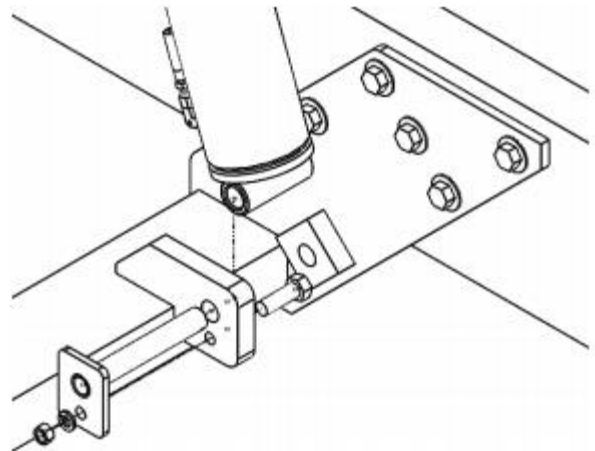

Figure 11
1. Align the lower Hydraulic Cylinder mounting hole with the corresponding holes on the Lower Cylinder Mount as shown in Figure 11.
2. Insert one (1) 3/4" Cylinder Pin into the cylinder hinge plate through the Hydraulic Cylinder lower mounting hole as shown in Figure 11.
3. From the inside of the hinge plate, insert one (1) 3/8" Hex Bolt through the hinge plate and the lower hole on the Cylinder Pin.
4. Attach one (1) 3/8" Lock Washer and one (1) 3/8" Hex Nut to the protruding end of the Hex Bolt and fasten with appropriate wrench until secure as shown in Figure 11.
5. Repeat these steps for the remaining three (3) Hydraulic Cylinders.